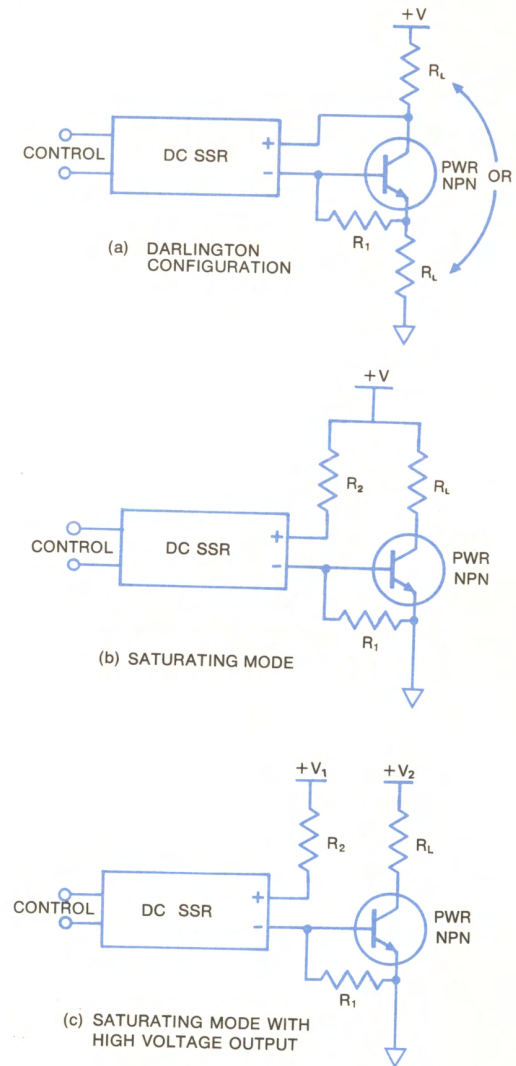

Fig. 2-20 Driving high power transistors with DC SSRs.
2.6.6 Driving High Power Transistors (Fig. 2-20)
By driving the high power transistor in a Darlington configuration, the ability to connect the load in either the positive voltage or ground leg is retained, Fig. 2-20(a). For lower forward voltage drop resulting in lower dissipation, the output transistor is driven in the saturating mode, Fig. 2-20(b). In this configuration the load can
only be connected in the collector leg (+), but if it is necessary that the load be in the ground leg a PNP transistor can be used (with the circuit reversed). Output voltages higher than the voltage rating of the SSR driver are permissible if a second supply is used, as shown in Fig. 2-20(c).